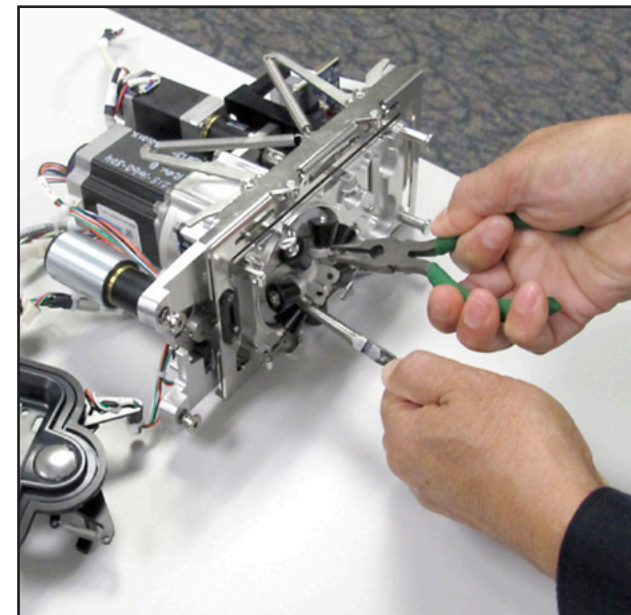

Figure 3-72 Removing Hub Roller from Fluidics Module
- 53.5 Remove Hub Roller by pulling it straight out from the Fluidics Module (see Figure 3-72 where two needle-nosed pliers are used to pull hub rollers).